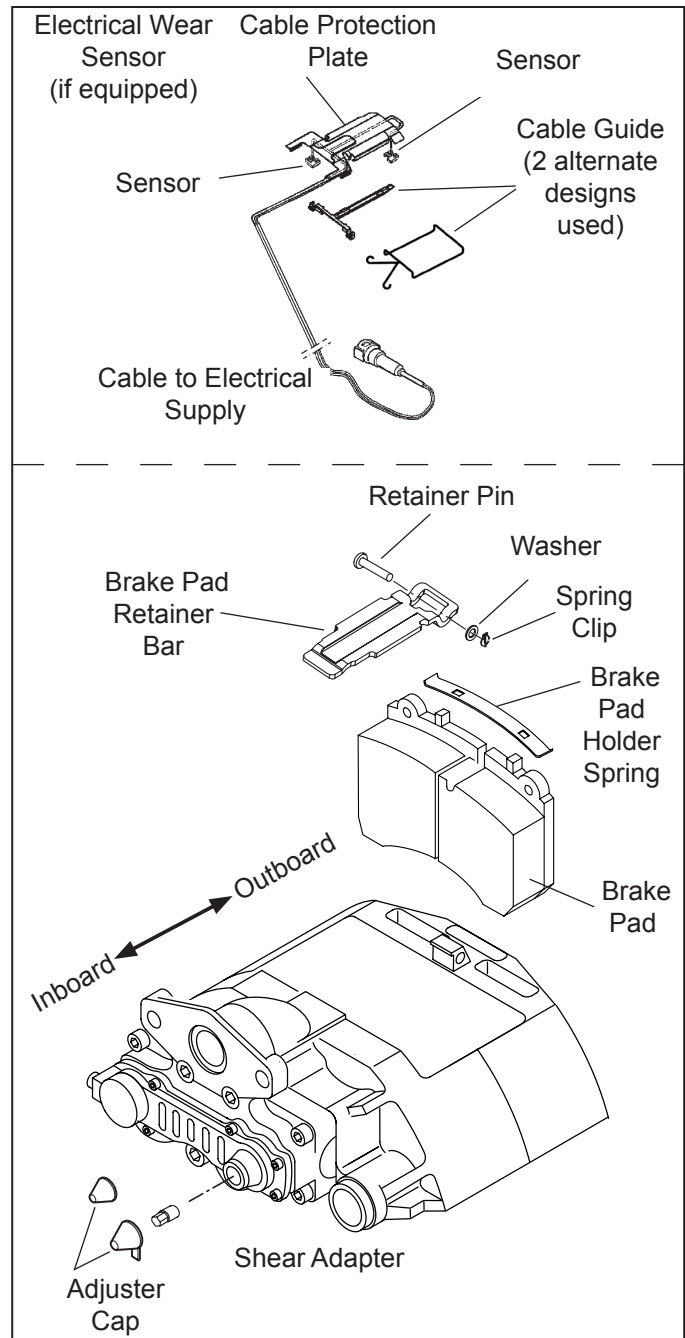

Figure 4 – Pad Replacement
1. If the air disc brake is equipped with an electronic wear sensor indicator (See *top of Figure 4*), remove and retain the cable protection plate and its mounting hardware. Note the position of the sensors in the brake pad channels, and carefully remove them. In most cases it is not necessary to release the cable connector in order to move the sensors away from the pad installation work area. Inspect the wear sensors – replace if damaged or abraded.
2. (See *Figure 4*). While pressing down against the brake pad retaining bar, remove the spring clip, washer, and retainer pin and brake pad retainer bar.
4. Push the pad retainer bar into the groove of the caliper. Press down on the pad retainer bar, and insert the pad retainer pin, with the pin pointing downwards, where possible. Install the washer and then the spring clip. (See Figure 4).